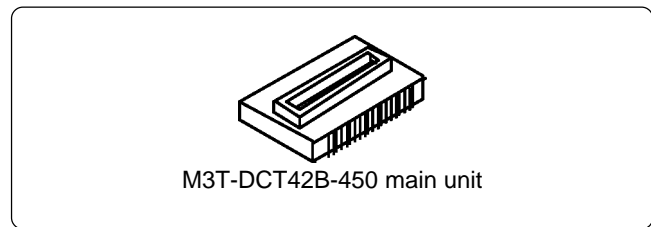

Figure 1 Package component
2. Package Components (See Figure 1)